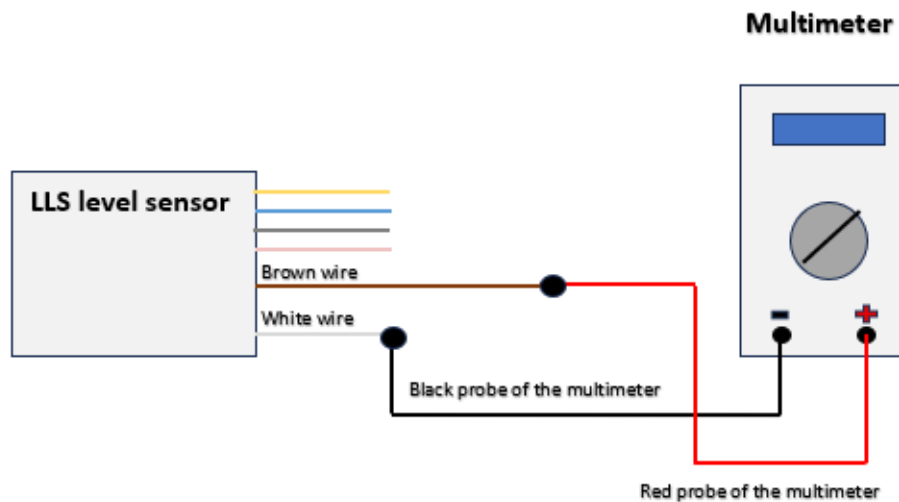

Fig. 3 Connection Diagram
2. Assemble the connection circuit according to «Fig.3 Connection Diagram»